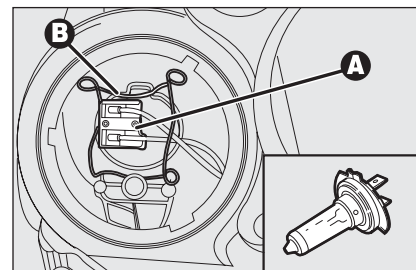

fig. 23
- disconnect the electric connector **A-fig. 23**;